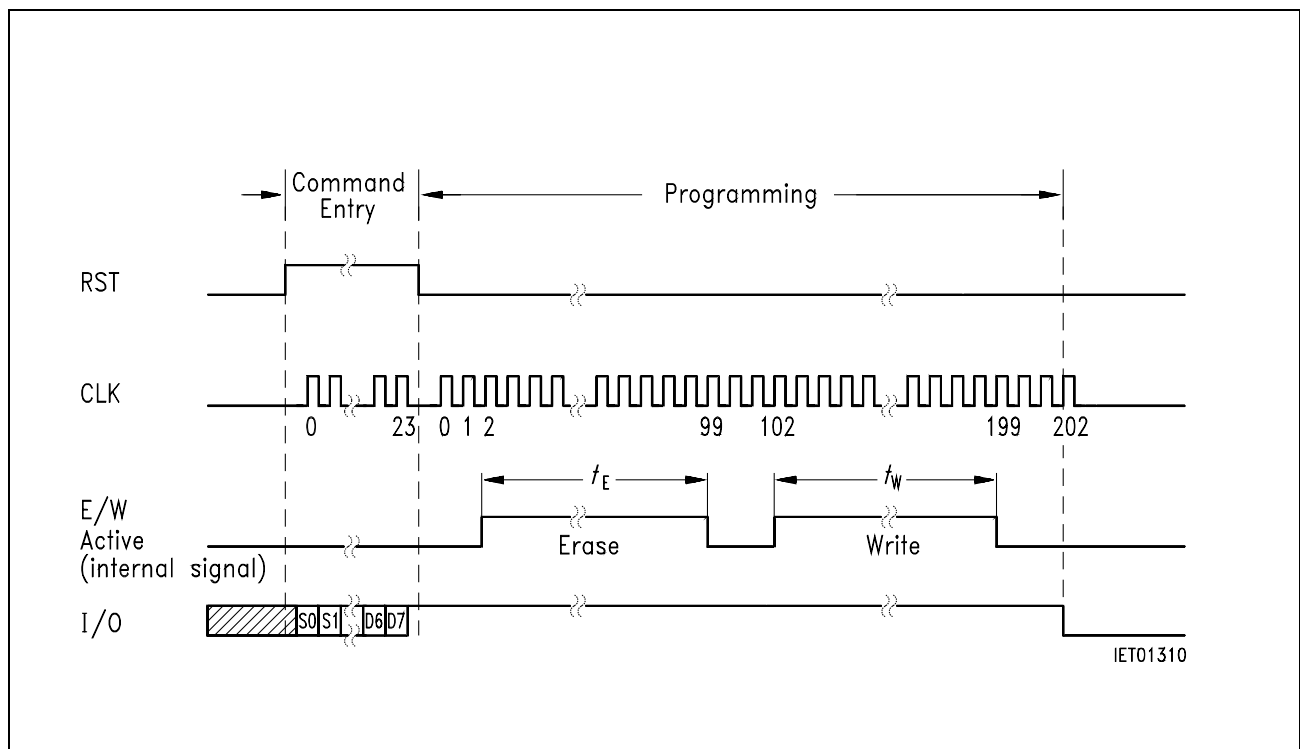

Figure 5
- Erase and subsequent write (duration 203 clock pulses, $f \leq 20$ kHz) (Fig.5)